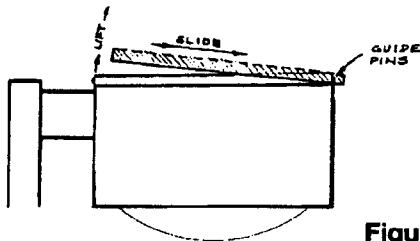

Figure 1
2. Remove top cover by loosening two (2) screws on pole side of cover.
3. Lift cover slightly and slide forward to disengage from front guide pins. (Figure 1)